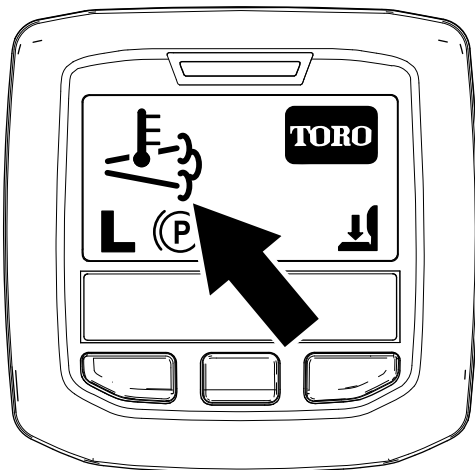

Figure 42
- The high exhaust-temperature icon  displays in the InfoCenter (Figure 42).